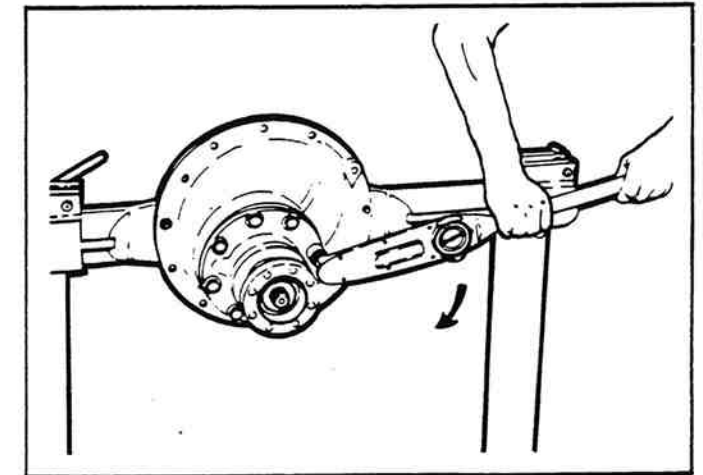

Figure 2-58. Torquing Cage Mounting Capscrews.
- Install the bearing cage to carrier capscrews and washers. Tighten capscrews to correct torque value. See the torque chart later in this section (Figure 2-58).